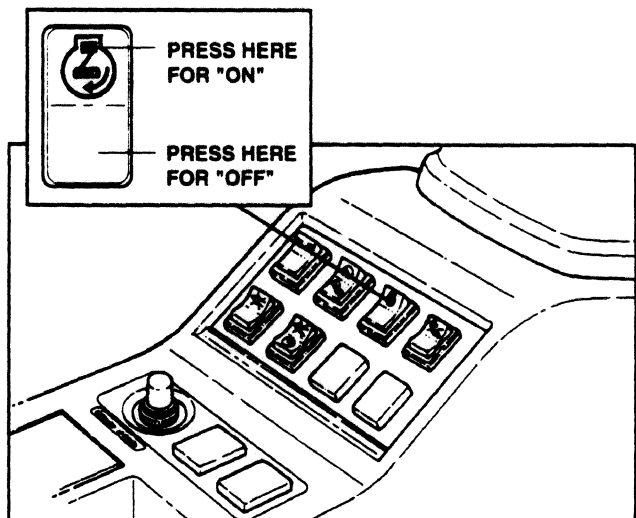

FIGURE 2.13
3. Auto Decel Select Switch- FIGURE 2.13